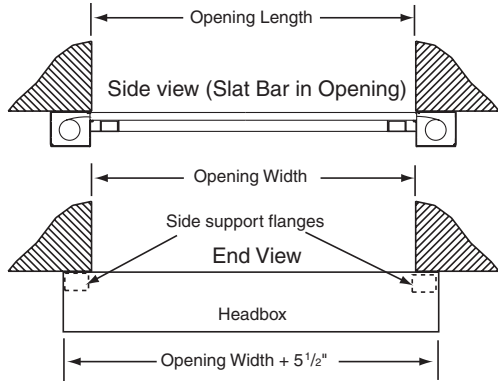

Figure 7
- ⑥ **For All: For Outside Mount**—Measure opening and unit and compare the two (see Fig. 7). The Skylight FlexShade should be about 5 1/2" larger than the opening to be covered; the length should be about 8" longer than opening (11"-12" longer if slat bar and headboxes are all to be outside opening).